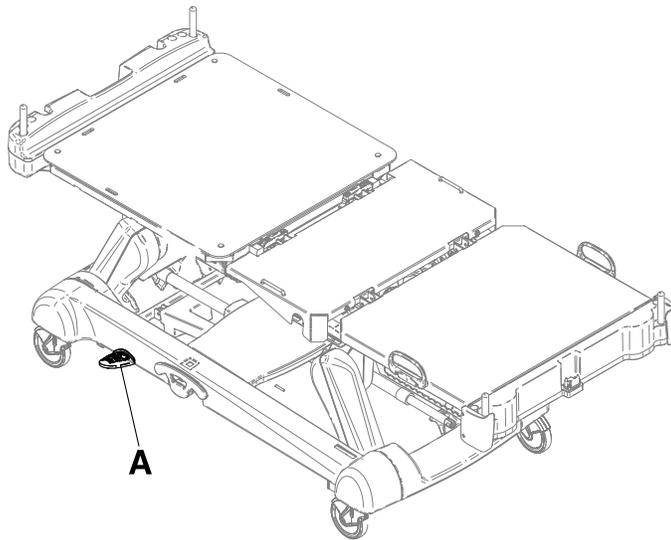

Figure 9: CPR release pedal
Two instant CPR release pedals are located at the head end section on both the left and right sides of the litter (A) (Figure 9 on page 21).